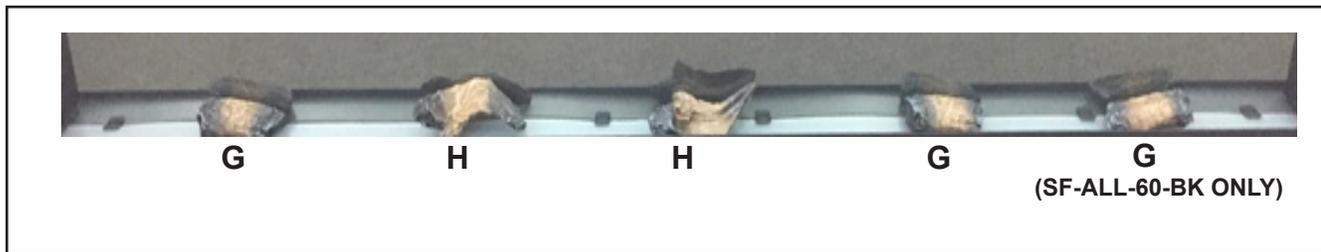

Figure 2. Place Small Logs
- Place small logs G (3) and H (2) on the fuel bed as show in Figure 2 & 4.